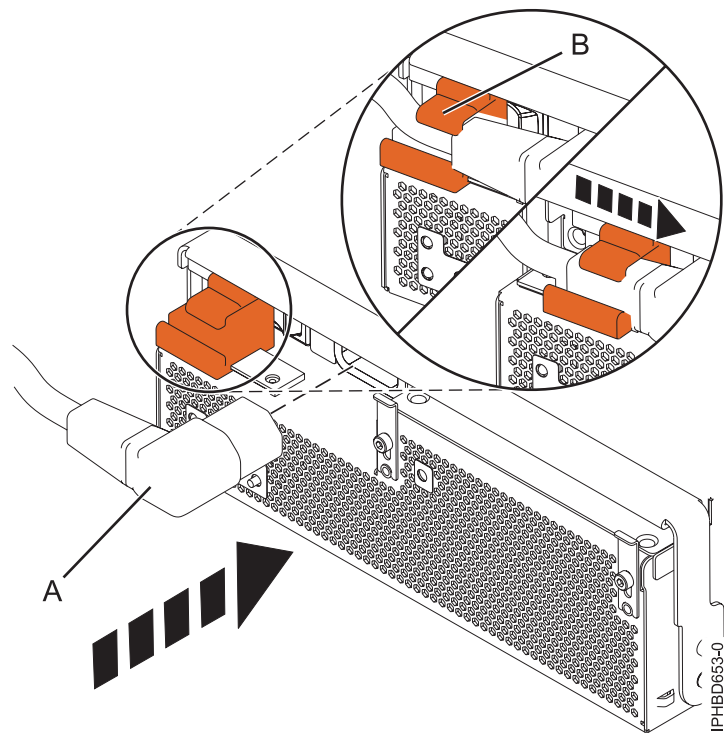

Figure 20. Connecting the power cable to the front of an expansion unit
8. Connect the power cable (A) to the front of the power supply, and then slide the cable retention bracket (B) to the closed position to secure the cable as shown in Figure 20.